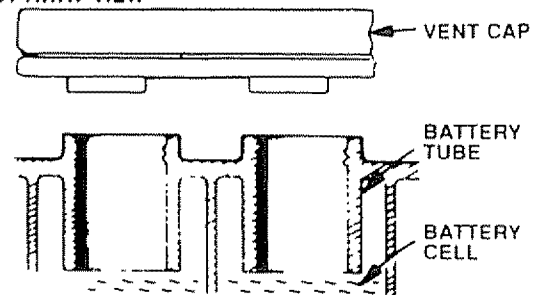

FIGURE 21
- Acid solution level in each battery cell should be even with bottoms of tubes in cells (fig. 21). Add ONLY distilled water if necessary. NOTE: DO NOT OVERFILL.